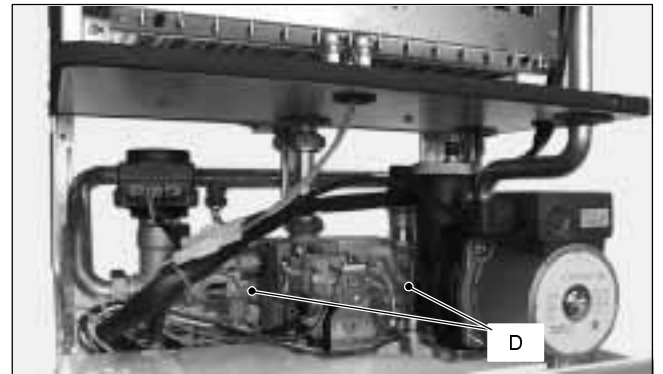

Fig. 16
- 5 Completely unscrew the two Allen key screws *D* (Fig. 16) which hold the exchanger to the brass groups.